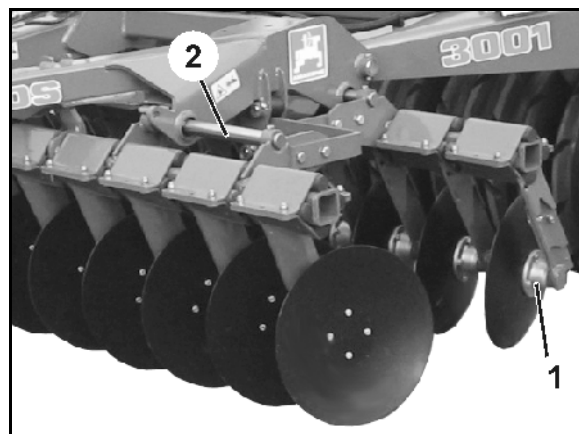

Fig. 8
The mounting of the concave discs (Fig. 8/1) consists of a two-row angular contact ball bearing with slide seal and oil filling and is maintenance-free.
- The offsetting of the two disc rows is adjusted via the offset slide (Fig. 8/2) to working depth and speed. Adjustment is made with the **AMAZONE** eccentric pins.